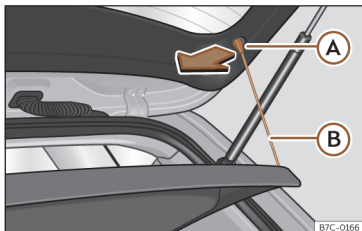

Fig. 161 In the boot: removing and installing the shelf.
- Detach the cord loops >>> **Fig. 161** **B** from their hooks **A**.
- Attach the securing straps >>> **Fig. 161** **B** onto the rear lid.